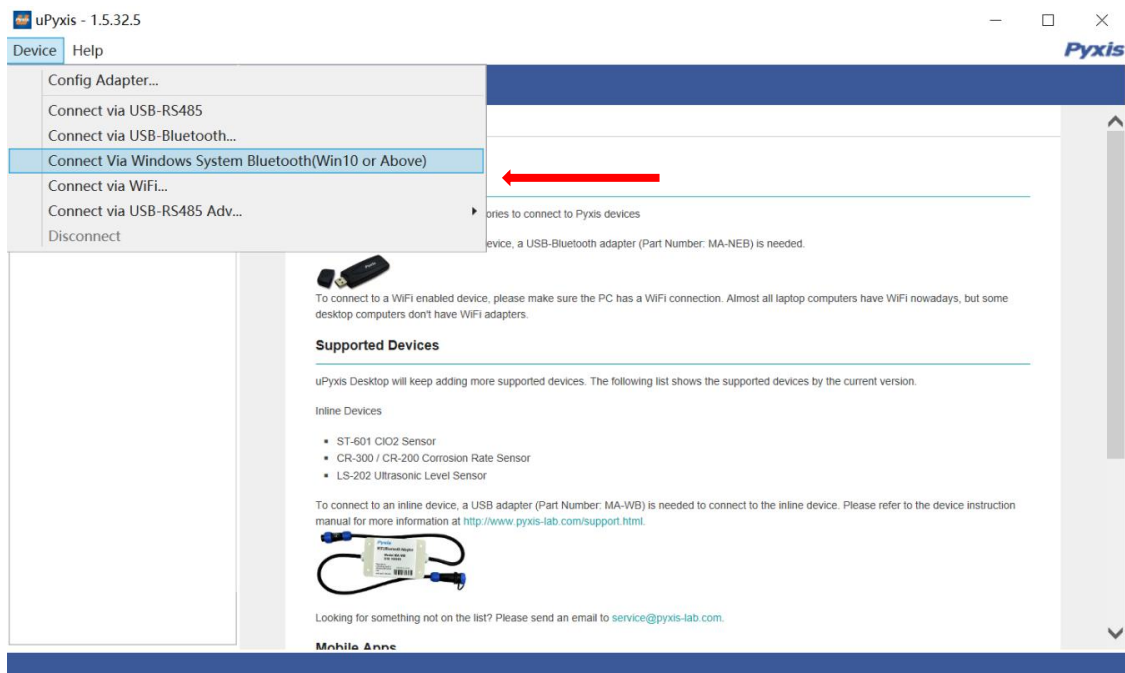
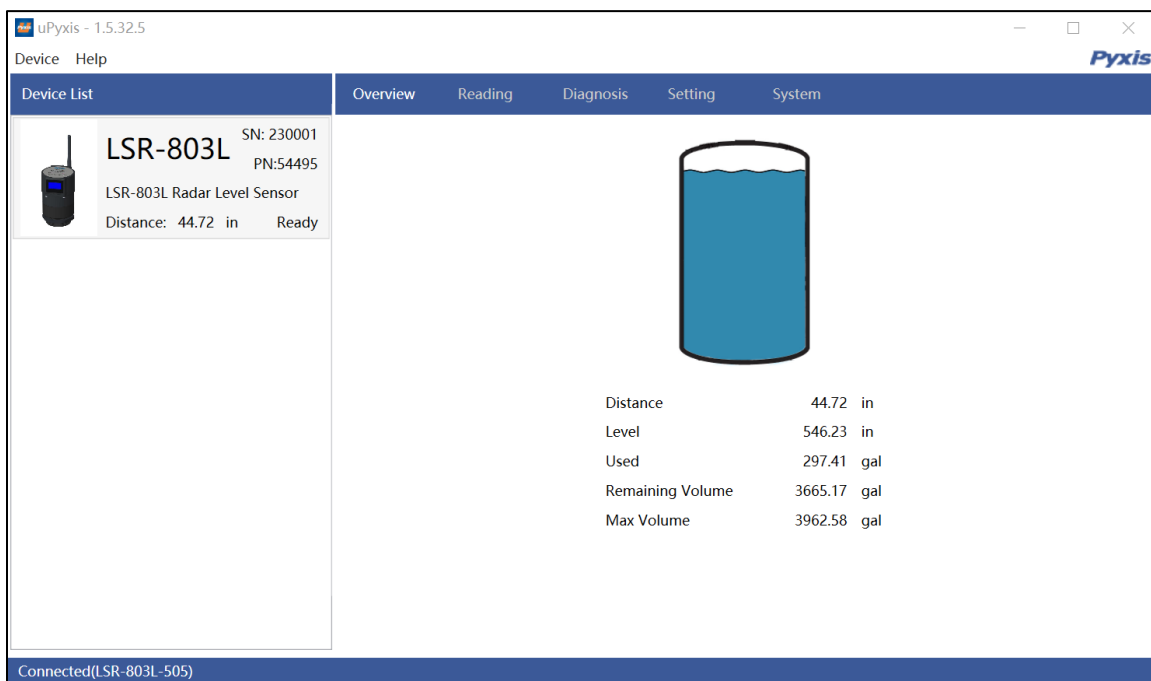

Figure 9. Connect uPyxis desktop app to LS-803 Series Radar Level Sensor
Figure 10. uPyxis Live Display After Connection to LSR-803L Series Sensor
1. Make sure the LSR-803 series is in Peripheral (P) Mode if you desire to configure the sensor. For tank level reading only, the unit may remain in Beacon (B) Mode.
3. On uPyxis Desktop, click menu Device -> **Connect via Windows System Bluetooth (Win10 or above)** as shown in Figure 9. If the connection is successful, the LSR-803 Series image and its Serial Number will be displayed in the left pane of the uPyxis window as shown in Figure 10.